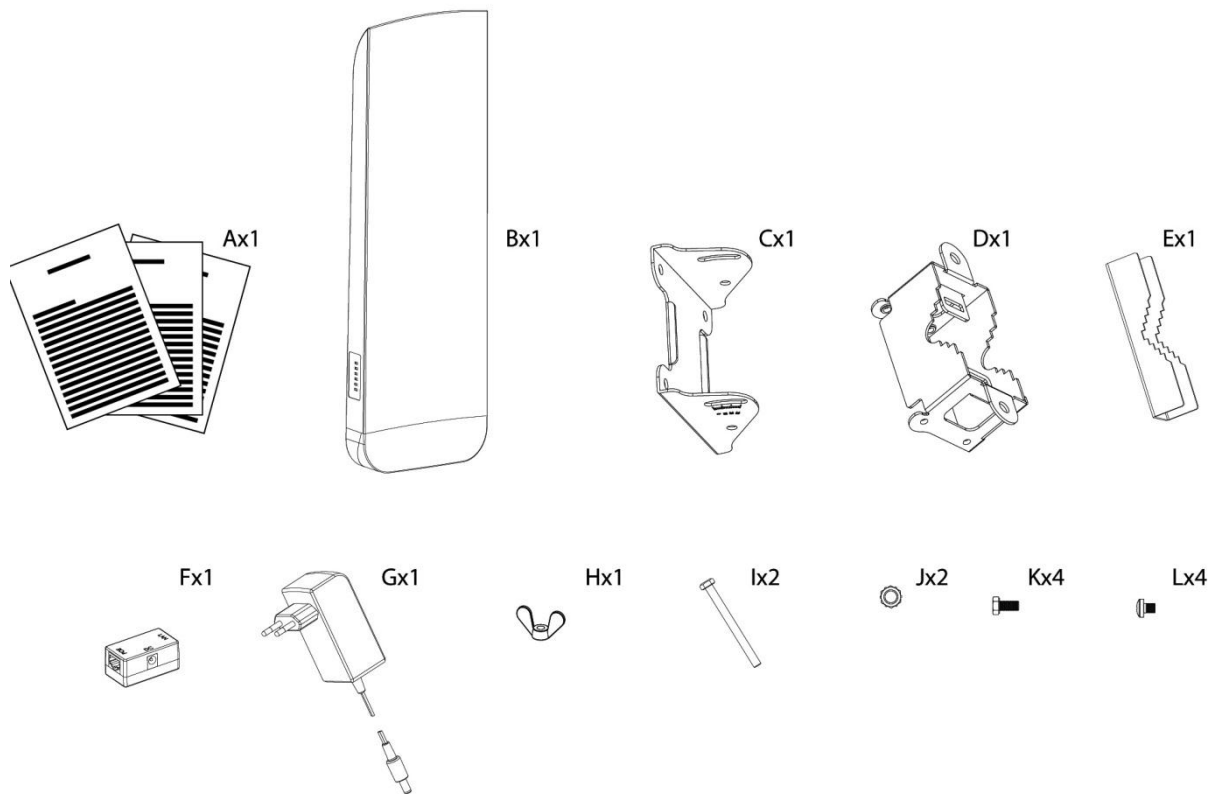

Figure 1 – APC 2M-90 Package Contents
- Step 4.** Attach the mounting hardware to the device: first fix mounting hardware part 1 with four Hex bolts M4x5 (items C and L in the *Figure 1 – APC 2M-90 Package Contents*), then attach the mounting hardware part 2 and fix it with four Hex bolts M5x10 (items D and K in the *Figure 1 – APC 2M-90 Package Contents*).
For pole mounting attach mounting hardware part 3 (item E in the *Figure 1 – APC 2M-90 Package Contents*) and the unit on a pole and fix them with M6 bolts and nuts (items I and J in the *Figure 1 – APC 2M-90 Package Contents*):
- Step 6.** Ground the APC 2M-90 unit. The unit must be properly grounded to protect against lightning. The grounding wire must be attached to the grounding stud and tightened with the nut (item H in *the Figure 1 – APC 2M-90 Package Contents*):
- Step 7.** Connect AC adapter into PoE injector (items F and G in *the Figure 1 – APC 2M-90 Package Contents*) together with UTP cables as displayed in the picture below: